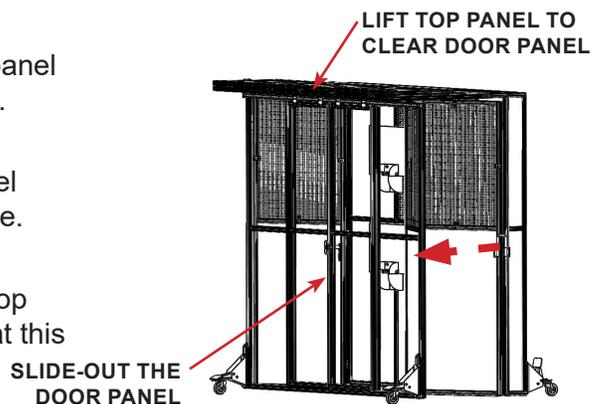

FIGURE 2.3 - Unfolding The Panels
STEP 2: Unfold the Panels - Simultaneously (both sides) lift the top panel up to clear the panels while pulling out the front panel. Careful to raise the top panel high enough to clear the front and side panels as they slide out from under the top panel, until the unit is fully extended. Hand placement is important while unfolding the wall panels. See FIGURE 2.3